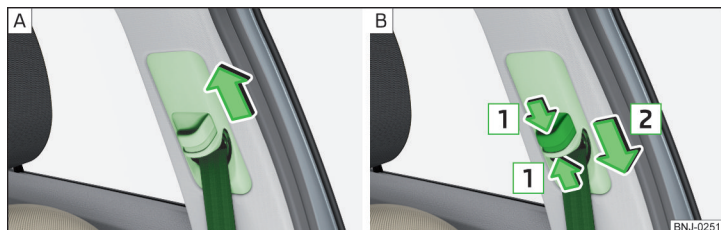

Fig. 18 Seat belt height adjusters for front seats
- Push the seat belt guide loop **upwards** in the direction of arrow» Fig. 18 - [A].
- **or:** push together the mechanism in the direction of arrows **1** and push the return pulley **downwards** in the direction of arrow **2**» Fig. 18 - [B].